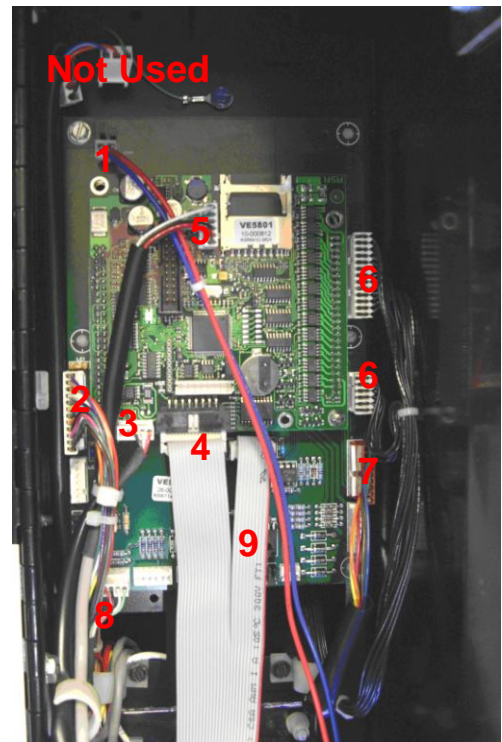

Figure 11
17. Attach the VE5801 Universal Control PCB to the VE5886 Harness PCB using the VE5806 standoffs and VE5813A Phillips screws provided. Install this assembly into the machine in the same location as the original PCB. Secure in place using the screw saved from step 6. See Figure 11.
18. Connect the (1) VE5802E 24V power supply harness, (2) Micro Mech harness, (3) VE5817 DEX harness, (4) VE5802C Display harness (5) VE5816 MDB harness, (6) Motor harnesses x 2, and the (7) Gum & Mint harness to the VE5886 Harness PCB as shown. See figure 11.
NOTE: The original 24V harness connections supplied in the machine are not used. Also shown in figure 11 are the optional (8) LED light kit and (9) Drop sensor.